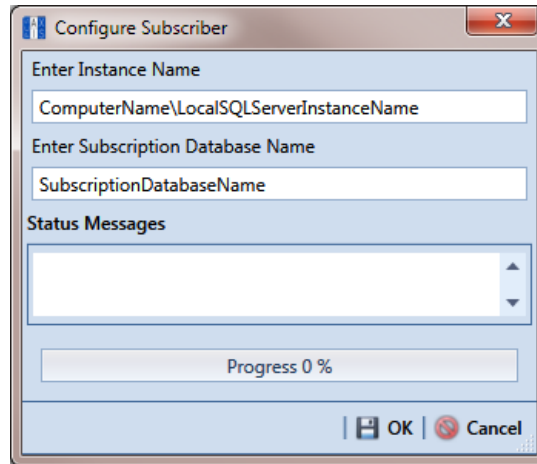

Figure 16-6. Configure Subscriber
- 2 Click **Tools > Configure Subscription** to open the *Configure Subscriber* dialog box (Figure 16-6, page 682).